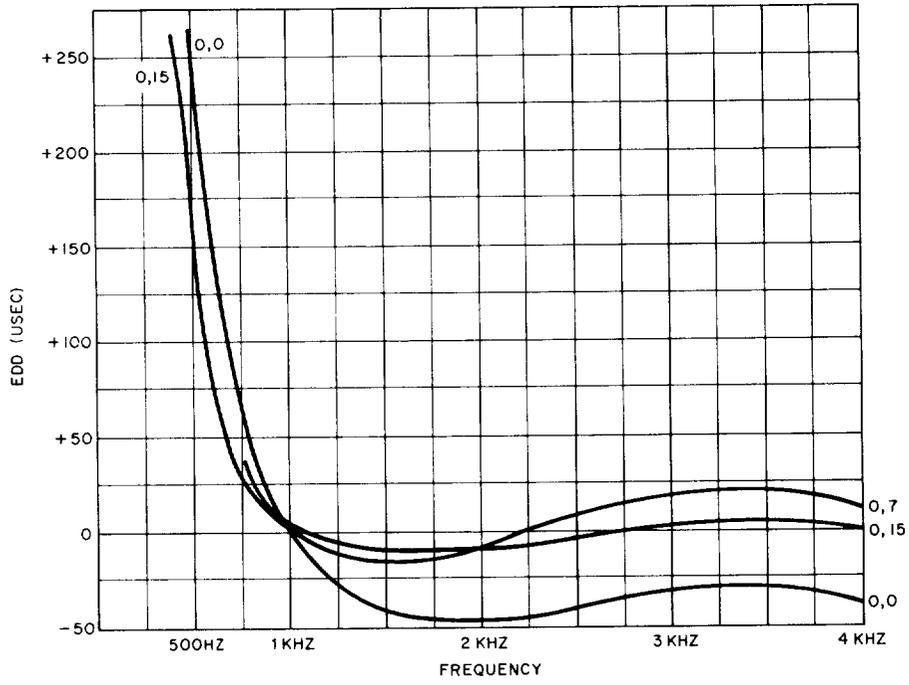
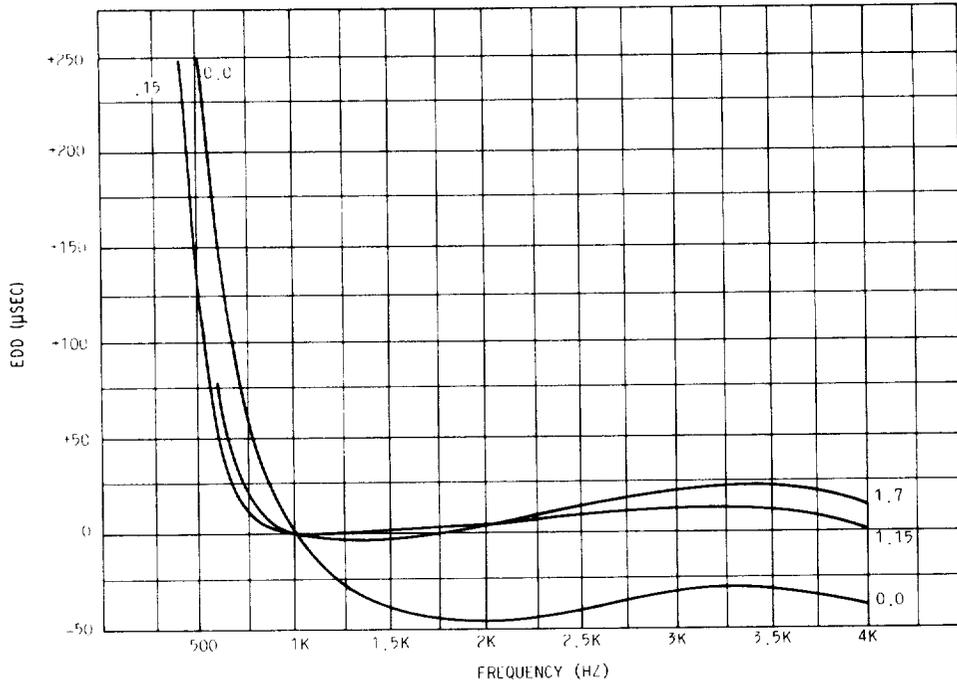

Fig. 11—Envelope Delay Distortion, C=0
Fig. 12—Envelope Delay Distortion, C=1
4.03 Figures 11 and 12 give the Envelope Delay Distortion (EDD). Figure 11 provides the EDD curves for various equalizer settings with the C switch set for 0 (off). Figure 12 provides curves for the same equalizer settings with the C switch set for 1 (operated).